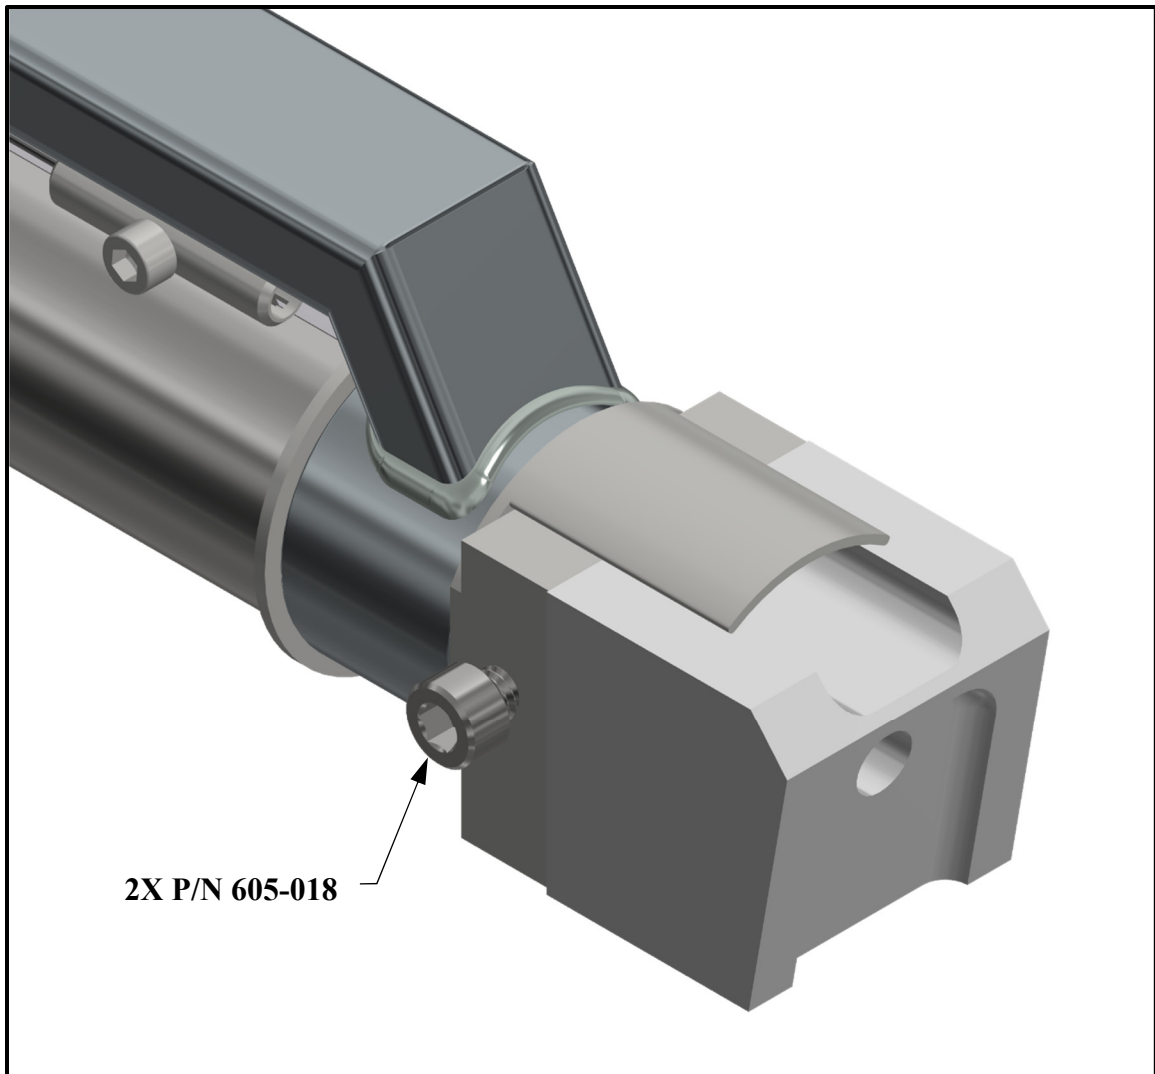

Figure 8.4
- a. Using a 5mm hex wrench remove the two socket head cap Screws, part number 605-018, from the Teflon Shoe Assembly. The Shoe Assembly may be one of the following: TS-605-B/A, TS-605-60/A or TS-605-0500/A (see Figures 8.4 and 8.5).